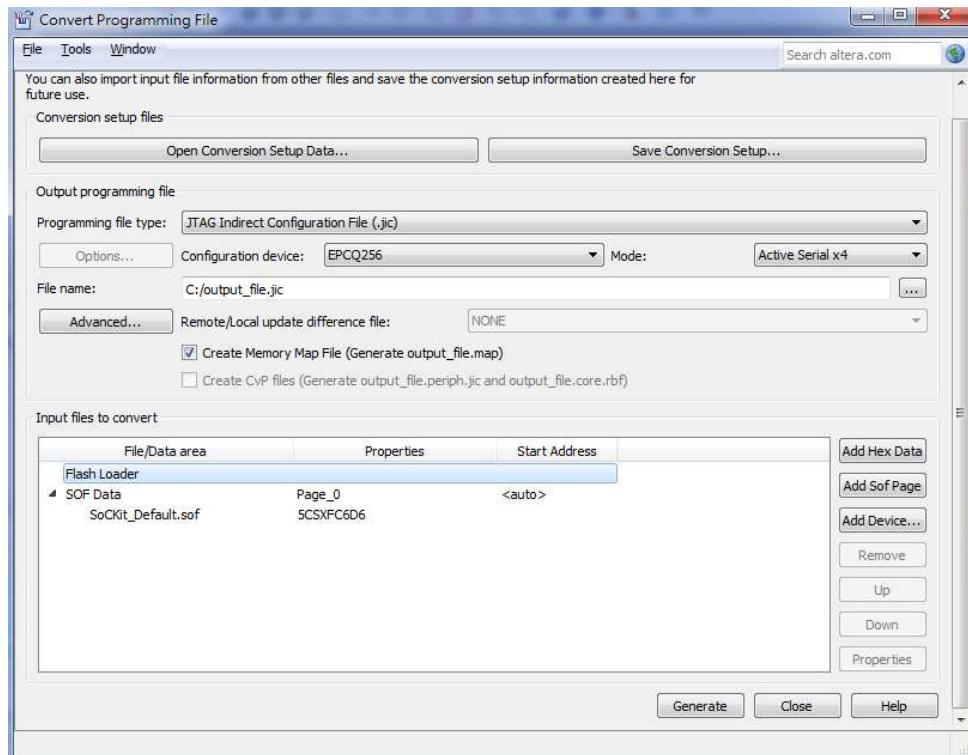

Figure 7-3. Highlight Flash Loader
10. Highlight the Flash Loader and click **Add Device**. See Figure 7-3.